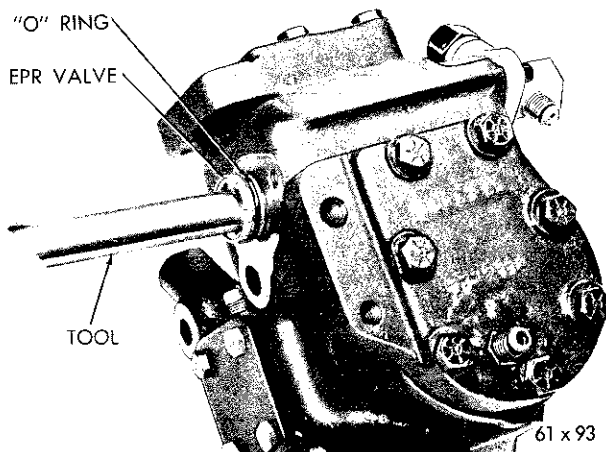

Fig. 35—Removing the EPR Valve
(1) Remove the two "EPR" Valve suction line fitting bolts, the fitting which also contains the compressor suction screen, spring, and the gasket.
(2) Remove the "EPR" Valve and "O" ring from the compressor using Tool C-3822, by rotating the valve counterclockwise slightly, as shown in Figure 35.